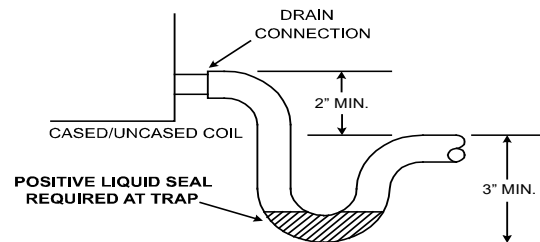

Figure 6
**NOTE:** Units operating in high static pressure applications may require a deeper field constructed "P" style trap than is shown in Figure 6 to allow proper drainage and prevent condensate overflow.